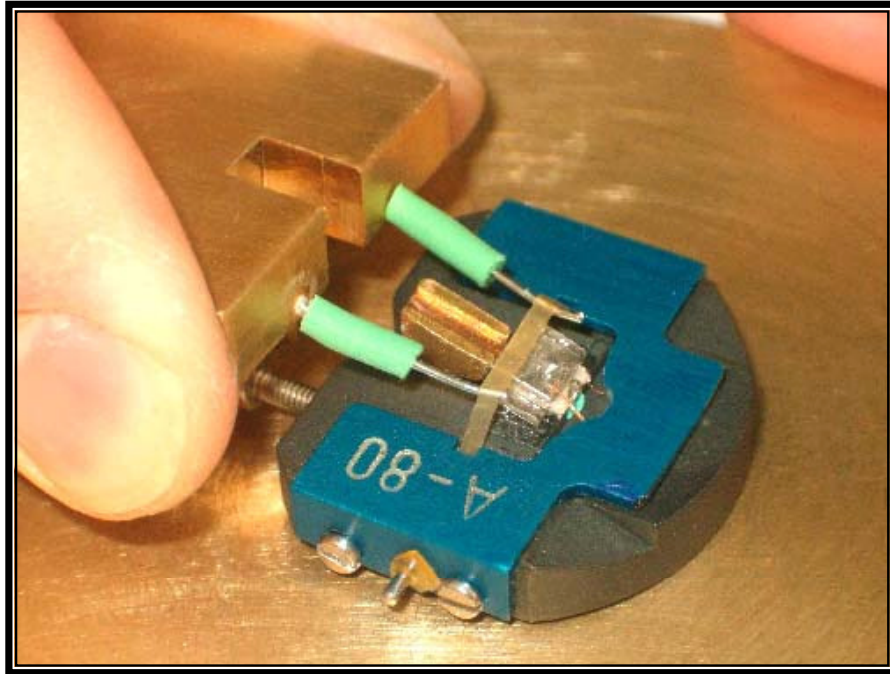

Fig. 2.17: Positioning the CEB fork under the rubber strip.
2. Using the CEB fork, align the two prongs with the rubber strip as shown in Figure 2.17.